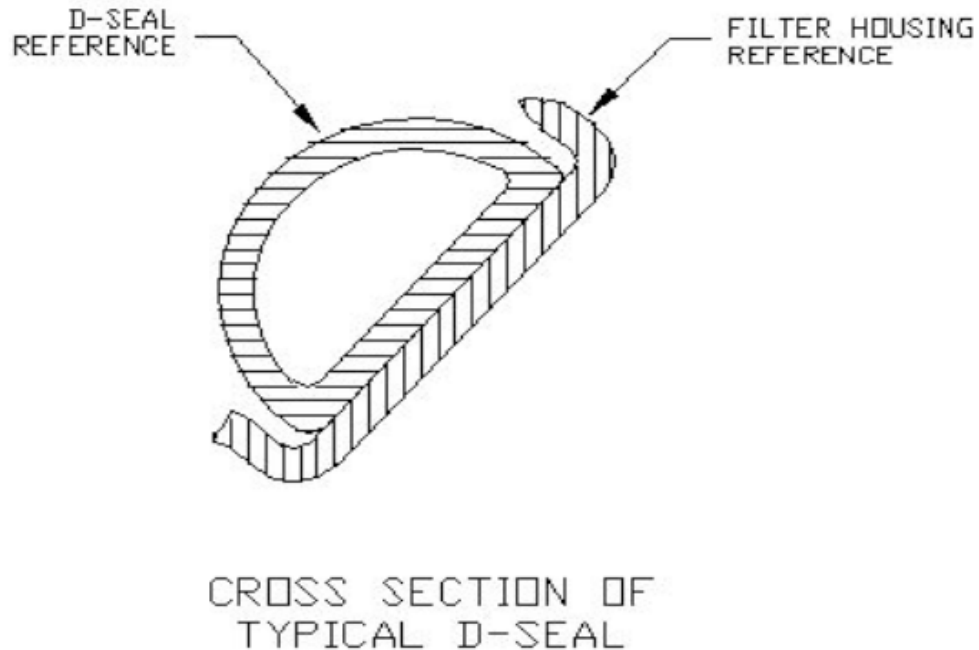

Figure 1 – D-Seal (Reference only)
- (1) Remove the filter element(s).
- (2) Cover the engine to prevent debris from falling into engine inlet.
- (3) Carefully inspect the D-seals (refer to Figure 1) for adhesion to mating surfaces, check for cracks, tears, or abnormal wear.